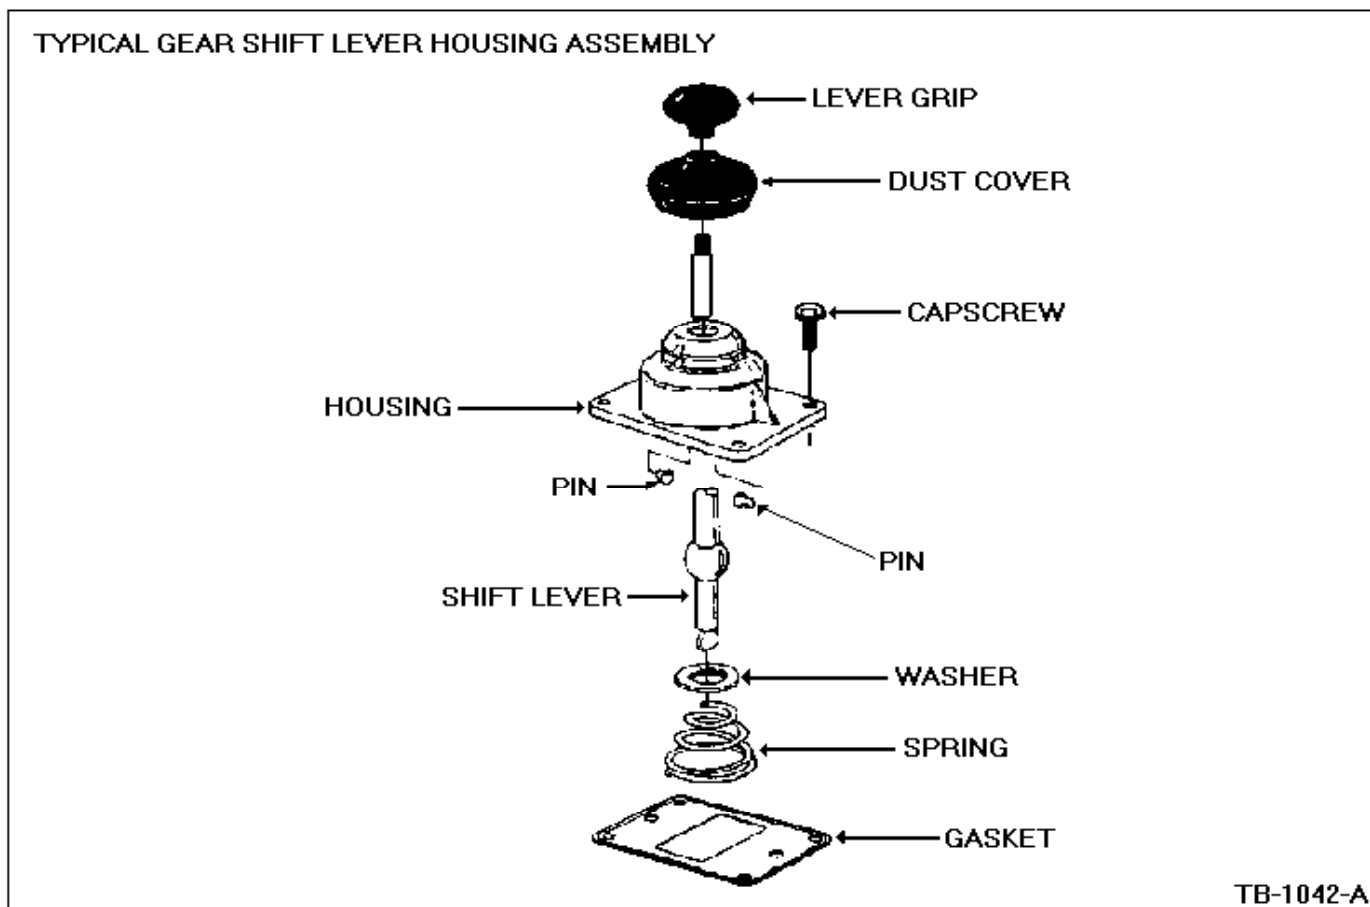

Figure 1 - Article 89-5-18
1. Remove the gear shift lever, Figure 1. Refer to the L-Series Shop Manual, Section 16-57 for removal instructions.